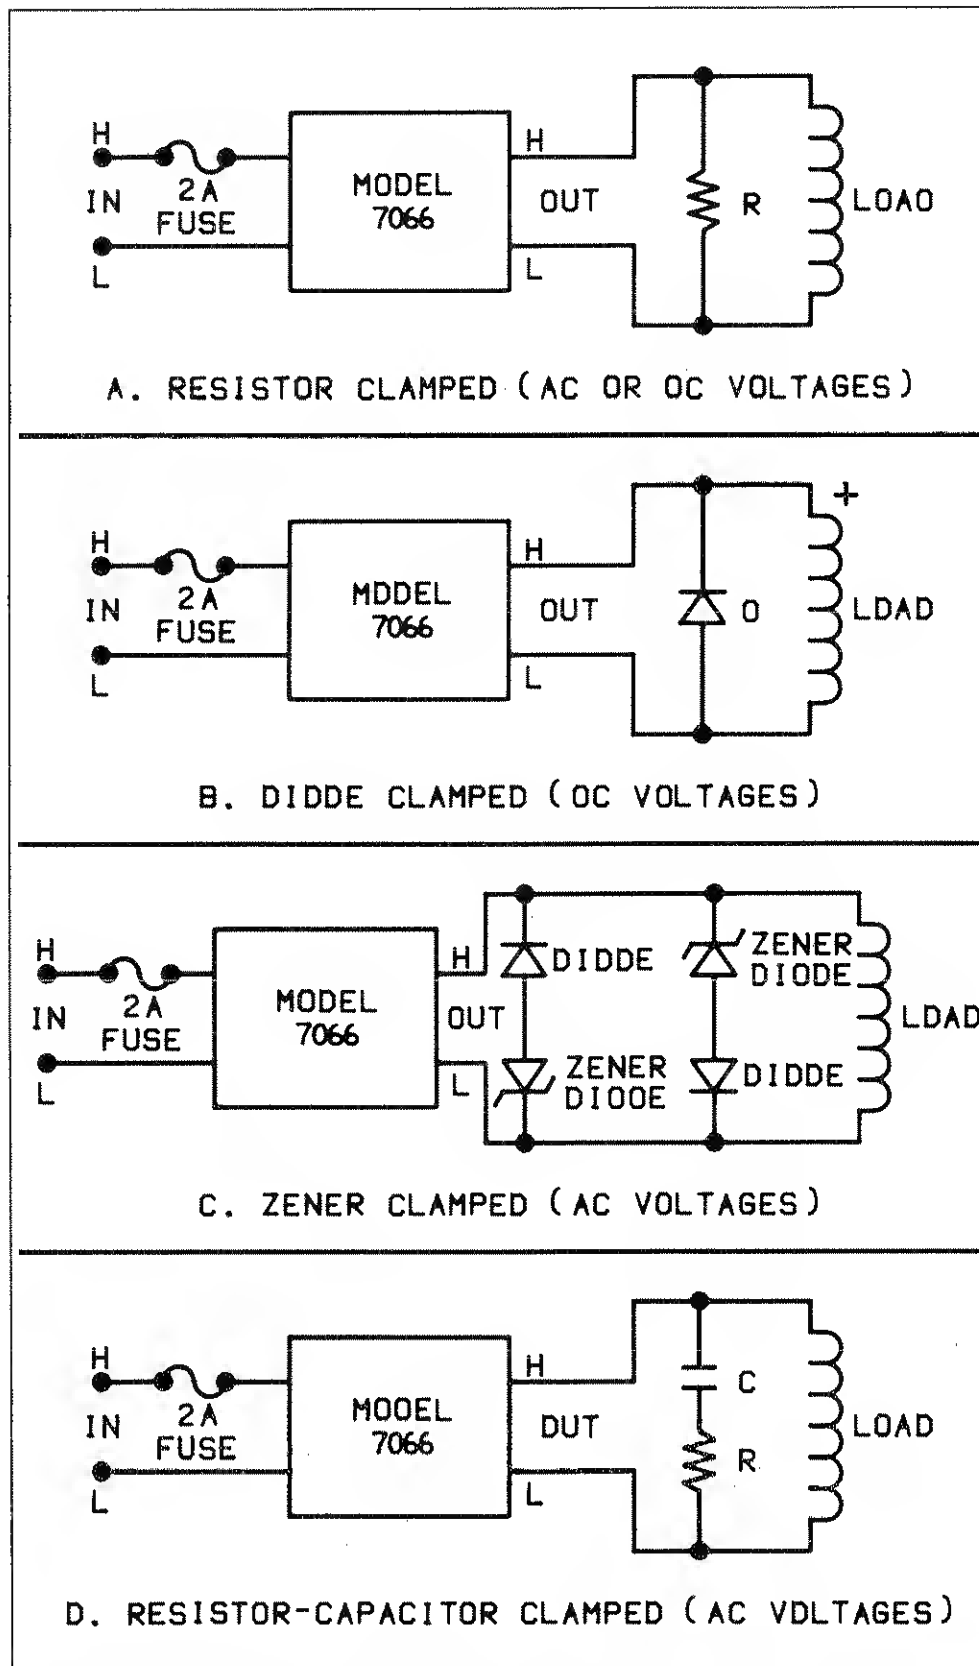

Figure 2-8. Limiting Inductive Reaction Voltage
- A. Inductive Loads—Inductive reaction voltage,  $L \frac{di}{dt}$ , must be limited to less than 250V in DC circuits or 350V peak in AC circuits. Also, consider the load when determining the voltage limit. Clamping circuits that can be used are shown in Figure 2-8.